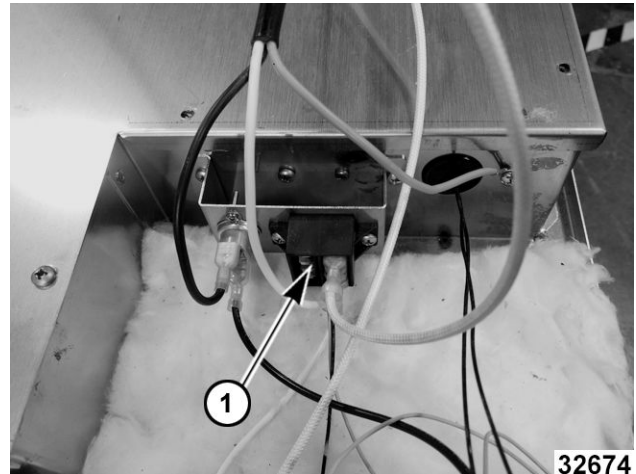

Fig. 17
3. Remove terminal block (1, Fig. 17) mounting screws.